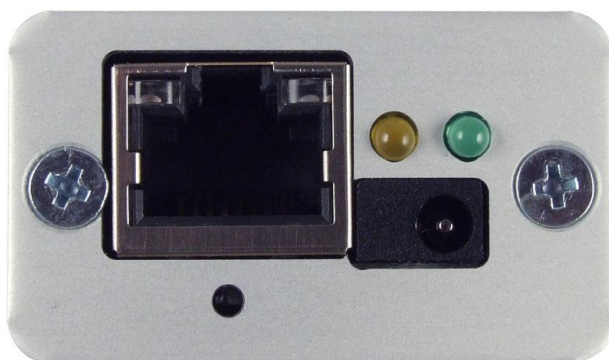

Fig. 25 – Indicators, power connector and the Ethernet connector
Indicates that power is connected. It also flashes to indicate the proper function of the device. In TCP mode indicator flashes as the data channel is active. (Fig. 25: right LED.)
Indicates established TCP/IP connection. (Fig. 25: left LED.)
- 2) Push the button under Ethernet connector (see Fig. 25).